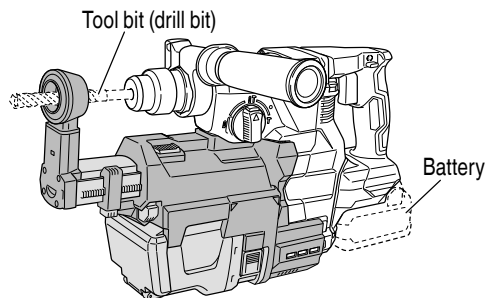

Fig. 2
- When attaching, removing, or adjusting the dust extractor system, in order to prevent an unlikely accident, be sure to turn off the tool's switch, and remove the tool's battery and tool bit. (Fig. 2)